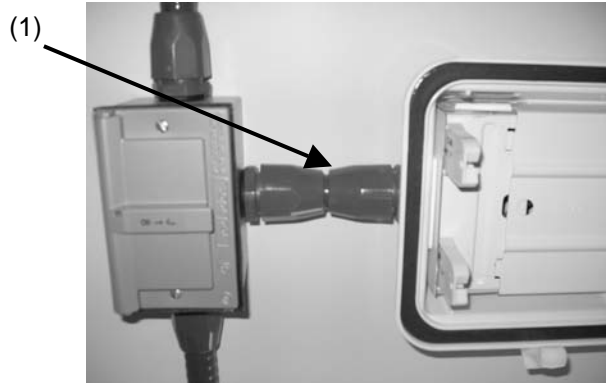

Figure 4-10. Conduit connecting ceiling light and outlet box.
3. Loosen conduit wire clamp (1) (Fig. 4-10) from conduit connector.